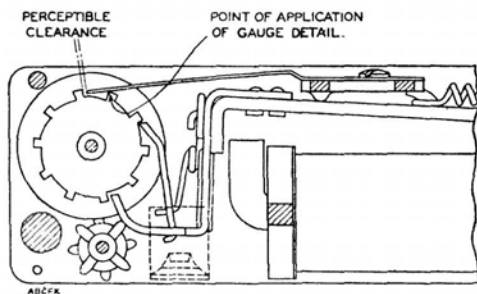

FIG. 7.—ADJUSTMENT OF DETENT SPRING
9. Detent spring.—Adjust the detent spring so that, when the armature is normal, there is just perceptible clearance between the tip of the detent spring and the face of the ratchet tooth, on all teeth of the ratchet wheel (as shown in Fig. 7). The pressure exerted by the detent spring on the forward ratchet tooth must be 10 ± 5 gm., measured as near to the point of contact as possible (see Fig. 7). (Verify by examination that the detent spring does not bind on either the frame or the "units" number wheel, when the "units" wheel is pressed lightly to the right.)